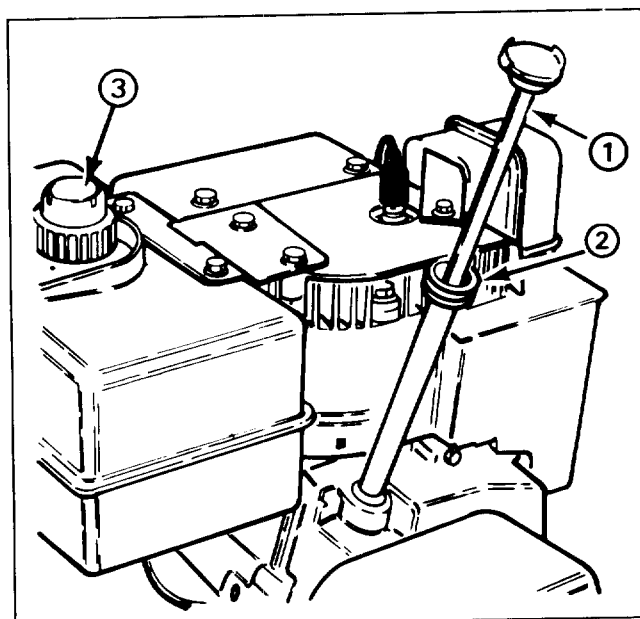

Figure 11
FILL CRANKCASE WITH OIL (Fig. 11)
1. Clean area around the fuel tank cap (Fig. 11). Remove cap from fuel tank. Using unleaded, regular gasoline, fill tank to within 1/4" to 1/2" (6 to 13 mm) from the top of the tank, not into the filler neck. This space is for expansion of fuel. Do not fill tank full. Reinstall fuel tank cap.
3. Open fuel shut-off valve below fuel tank (Fig. 11).